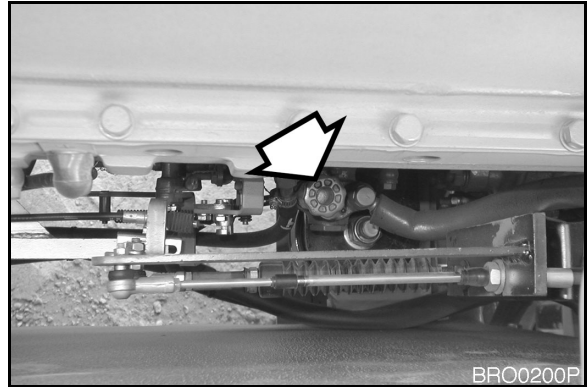

Figure 65
2. Unscrew and pump the hand operated primer pump (Figure 65) by the fuel injection pump. Pump primer until fuel is present at plug hole in fuel filter head.